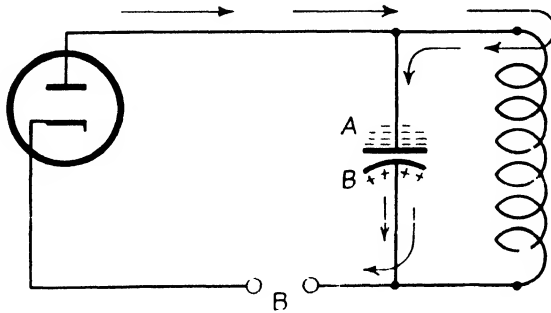

FIG. 427. The tank coil opposes the surge and charges the tuning condenser. Electrons are forced on side *A* and are drawn off side *B*.
(see Fig. 427). This makes side *A* negative and drives electrons off side *B* to the *B* supply.
3. When plate *A* has a heavy negative charge, as in Fig. 427, what will be the charge on the plate? What charge does the plate produce on the grid? What effect will the grid now have upon the plate current?